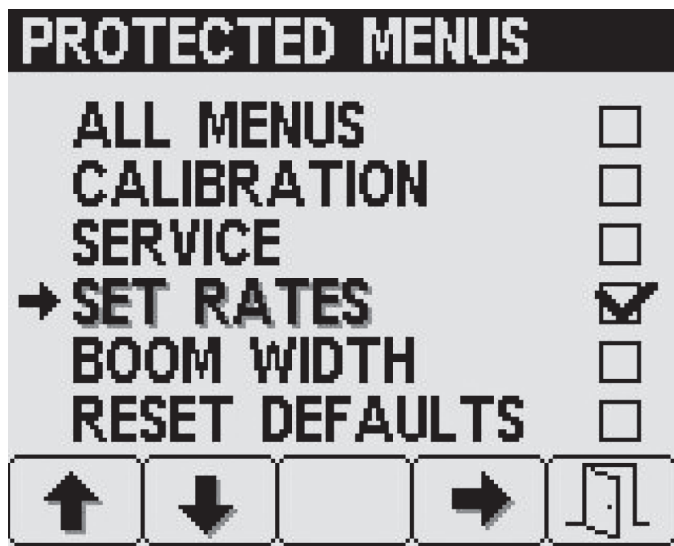

Figure 13
3. Press button 4 to select and deselect each protected menu item (Figure 13).